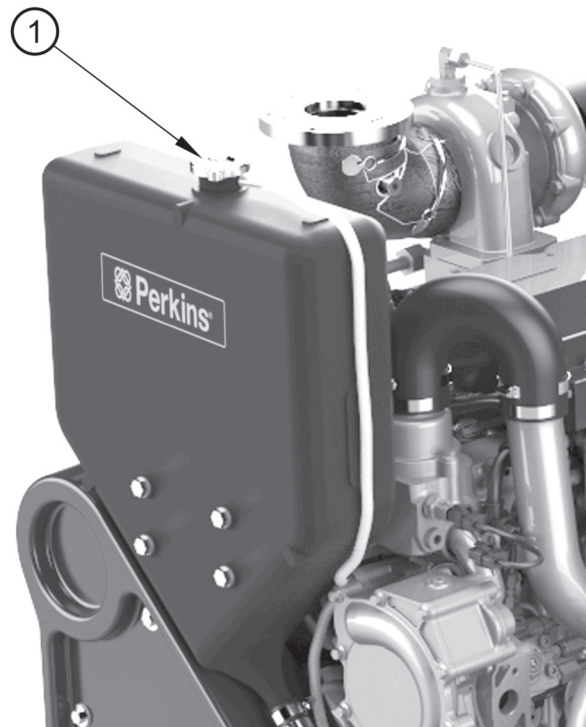

Figure 5
1. Remove the filler cap (figure 5 item 1) of the header tank and slowly fill the coolant system until the coolant level is just below the pipes inside the header tank.
1. Loosen the coolant filler cap on the header tank (figure 5 item 1).